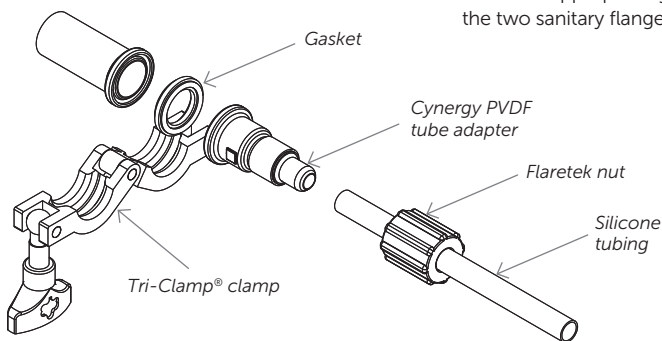

Figure 1.
1. Push the silicone tubing end onto the nose of the Cynergy PVDF tube adapter until the end of the tube contacts the shoulder of the adapter body (see Figure 1).
3. Place the appropriate gasket between the two sanitary flanges (see Figure 1).